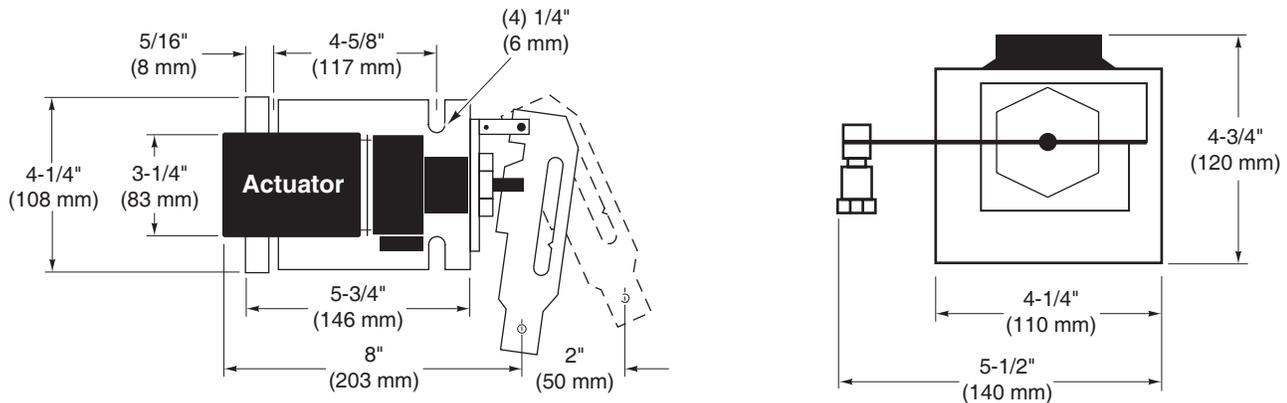

Figure-18 Damper Linkage Assembly Dimensions.
- Be sure to allow adequate working space around the actuator mounting location to mount the actuator, link it to the damper, and wire it into the system (refer to Figure-18).
- Position the actuator on the duct and mark the location of the mounting holes, using the actuator mounting bracket as a template (refer to Figure-18).